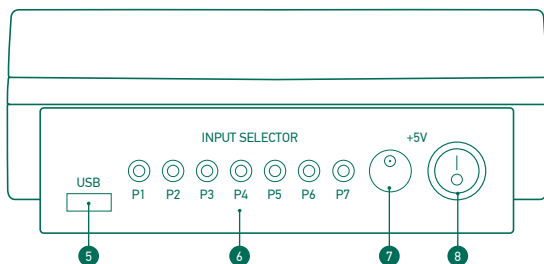

Fig. 9 Backside view
2. Turn on the power switch "+5V" No. 8 (Fig. 9). The display on the "SELECTOR" control panel will be switched on.